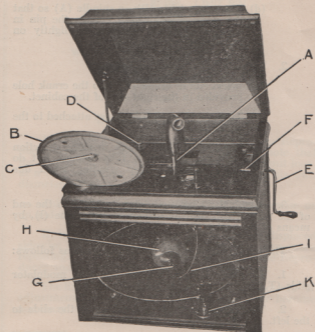

Fig. 1
*Refer to Fig. 1.*
- K (Fig. 1) Horn pivot bearing (5 drops).